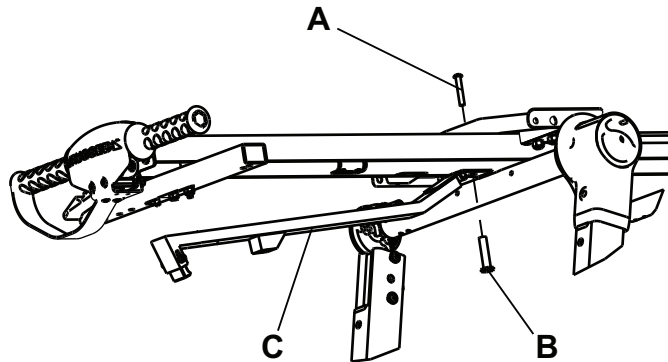

Figure 6 – Hook arm
- a. Using a T27H star key and M16 spanner, remove the button head cap screw (A) and flange nut (B) (Figure 6). Save the screw and nut.
- b. Apply Blue **Loctite**® 242 to the button head cap screw (A) or flange nut (B).
- c. Install the supplied hook arm assembly (C) (610000010016) with the screw and nut removed in step 5a (Figure 6).